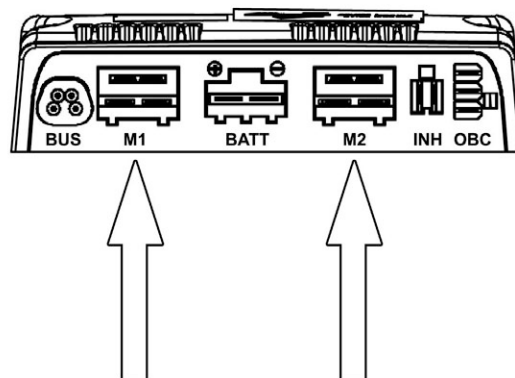

Figure 55. Disconnect the magnetic wheel lock and drive motor cabling from the Power Module.
6. Disconnect the magnetic wheel lock and drive motor cabling from the Power Module. See fig. 55.